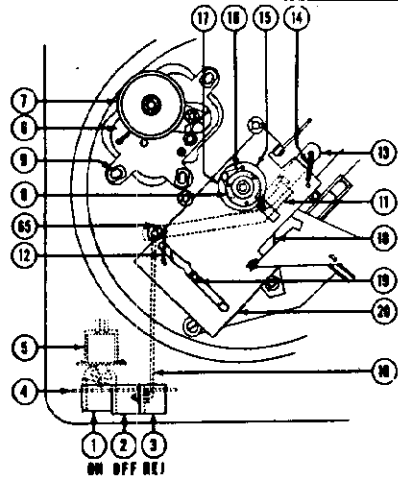

Fig. 3
<p style="text-align: center;">STARTING (Fig. 3)</p> <p>Depressing "ON" Button (1).</p>	<ol style="list-style-type: none"> 1. Turns Power Switch (5) on. 2. Motor (6) operates Idler Wheel (7) to rotate Turntable. 3. Turntable rotates Clutch and Turntable Shaft (8).
<p style="text-align: center;">CYCLING (Fig. 3)</p> <p>Depressing "REJ" Button (3).</p>	<ol style="list-style-type: none"> 1. Actuates Reject Link (10). 2. Moves Reject Arm (11). 3. Disengages Reject Lever (13) from Clutch Arm (15), allowing arm to contact rotating Clutch and Turntable Shaft (8) which starts the entire mechanism thru its change cycle.